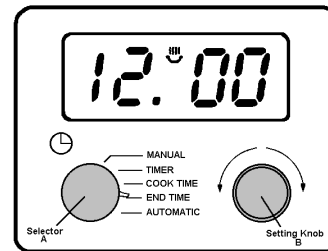
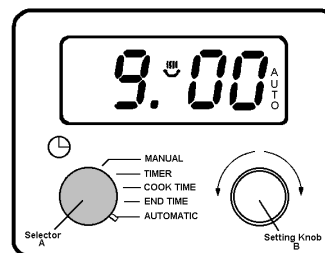

Fig.10
Fig.11
- iii) Turn the selector (A) to 'End Time'. The display will show 0.00 and the cookpot (☪) symbol will be lit. Turn setting knob (B) until the time is shown when you want the food to stop cooking e.g. 12.00 noon Fig. 10.
- vi) You may leave the selector (A) at the 'End Time'. This will display the amount of cooking time remaining.
Alternatively, turn selector (A) to 'Automatic'. The time of day will appear in the display. Fig 11. At any time you can turn the selector (A) to 'End Time' to see the time remaining.